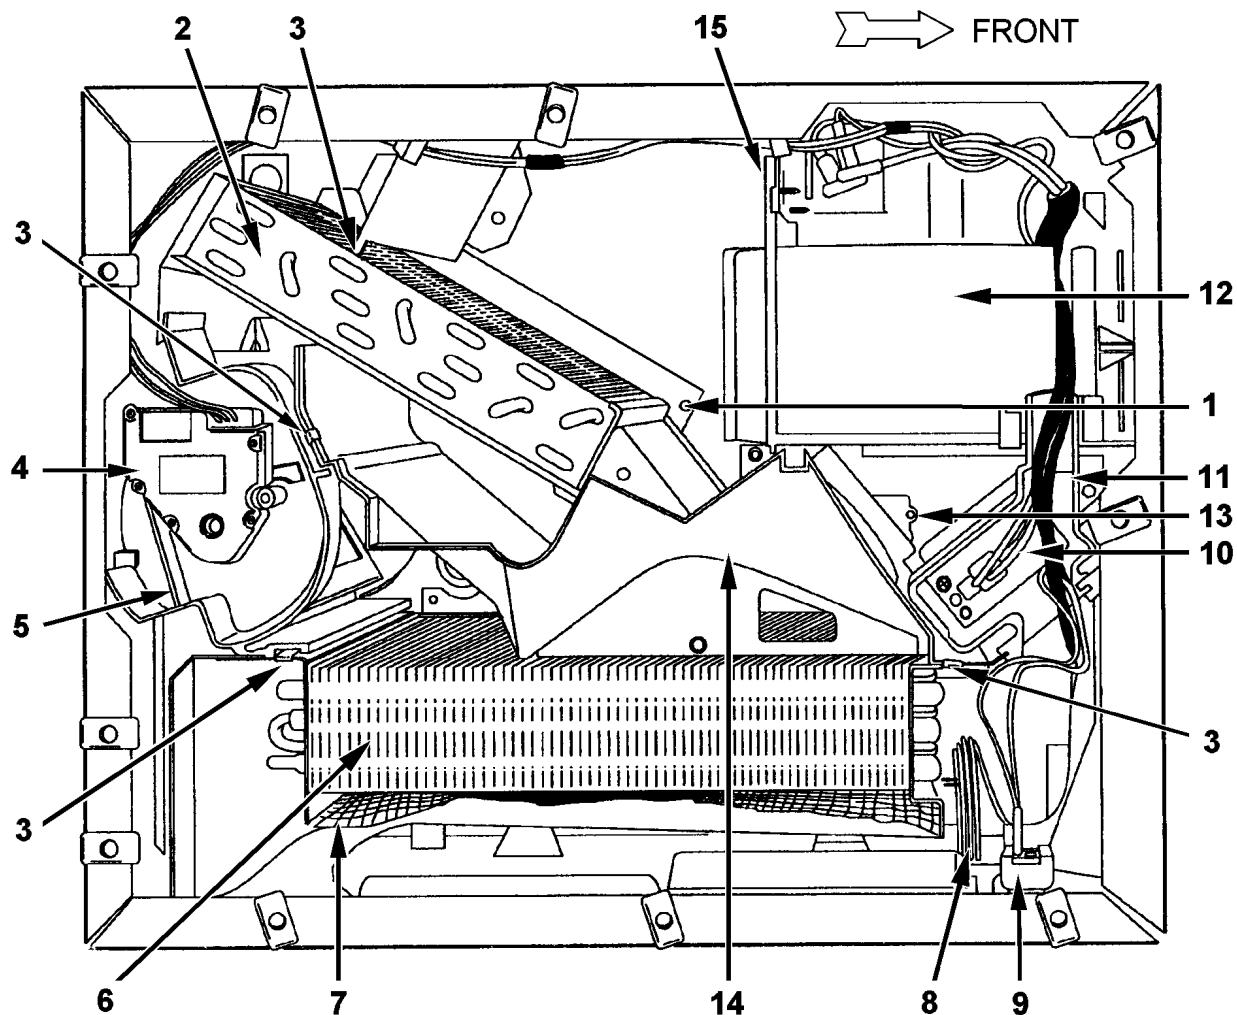

Figure 12 Blend-Air Unit Components
3. Remove cover from the Blend-Air unit (Figure 12).